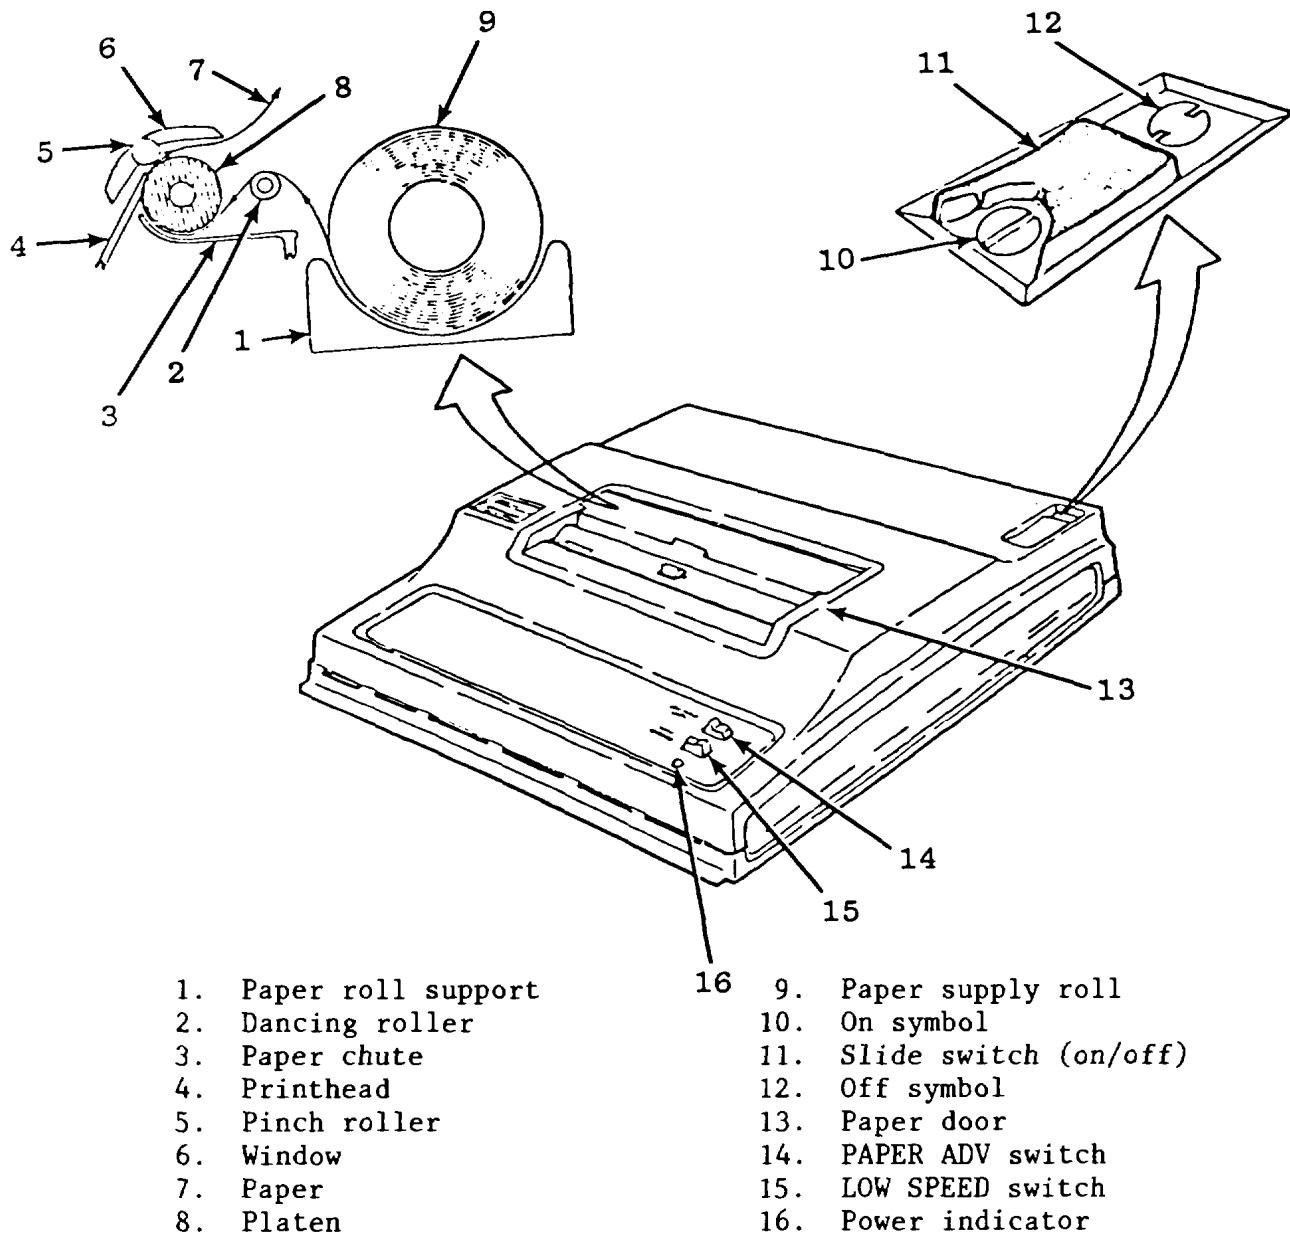

Figure 2-9. Loading Paper in Printer
- (1) Set printer on off slide switch to on (11, fig. 2-9).
- (2) Lift paper door (13).
- (3) If a usable amount of paper remains on paper supply roll, grasp used roll (9) and lift it from paper compartment. Tear paper halfway between roll and dancing roller (2), then remove roll. If no paper remains, simply remove empty core.
- (4) Press and hold PAPER ADV switch (14) so that any remaining paper is ejected from paper chute.
- (5) Using denatured alcohol (1, table 3-2), wet a 2-inch wide strip across a sheet of bond paper (6, table 3-2).
- (6) Feed paper over dancing roller (2, fig. 2-9) and down through paper chute (3) until it appears behind window (6). Paper does not slide behind printhead (4) because printhead is pressed against platen (8).
- (7) Print five lines on bond paper across 2-inch strip dampened with alcohol. Then advance paper to a dry area and print two more lines.
- (9) Grasp new paper roll so that loose end of paper is toward you with end pointing up.
- (10) Place paper roll (7, table 3-2) on paper roll support (1, fig. 2-9), checking that roll can rotate freely.
- (11) Grasp both corners of loose end of paper and gently pull up about 6 inches.
- (12) Insert paper in same manner as described for bond paper in (para (6) above).